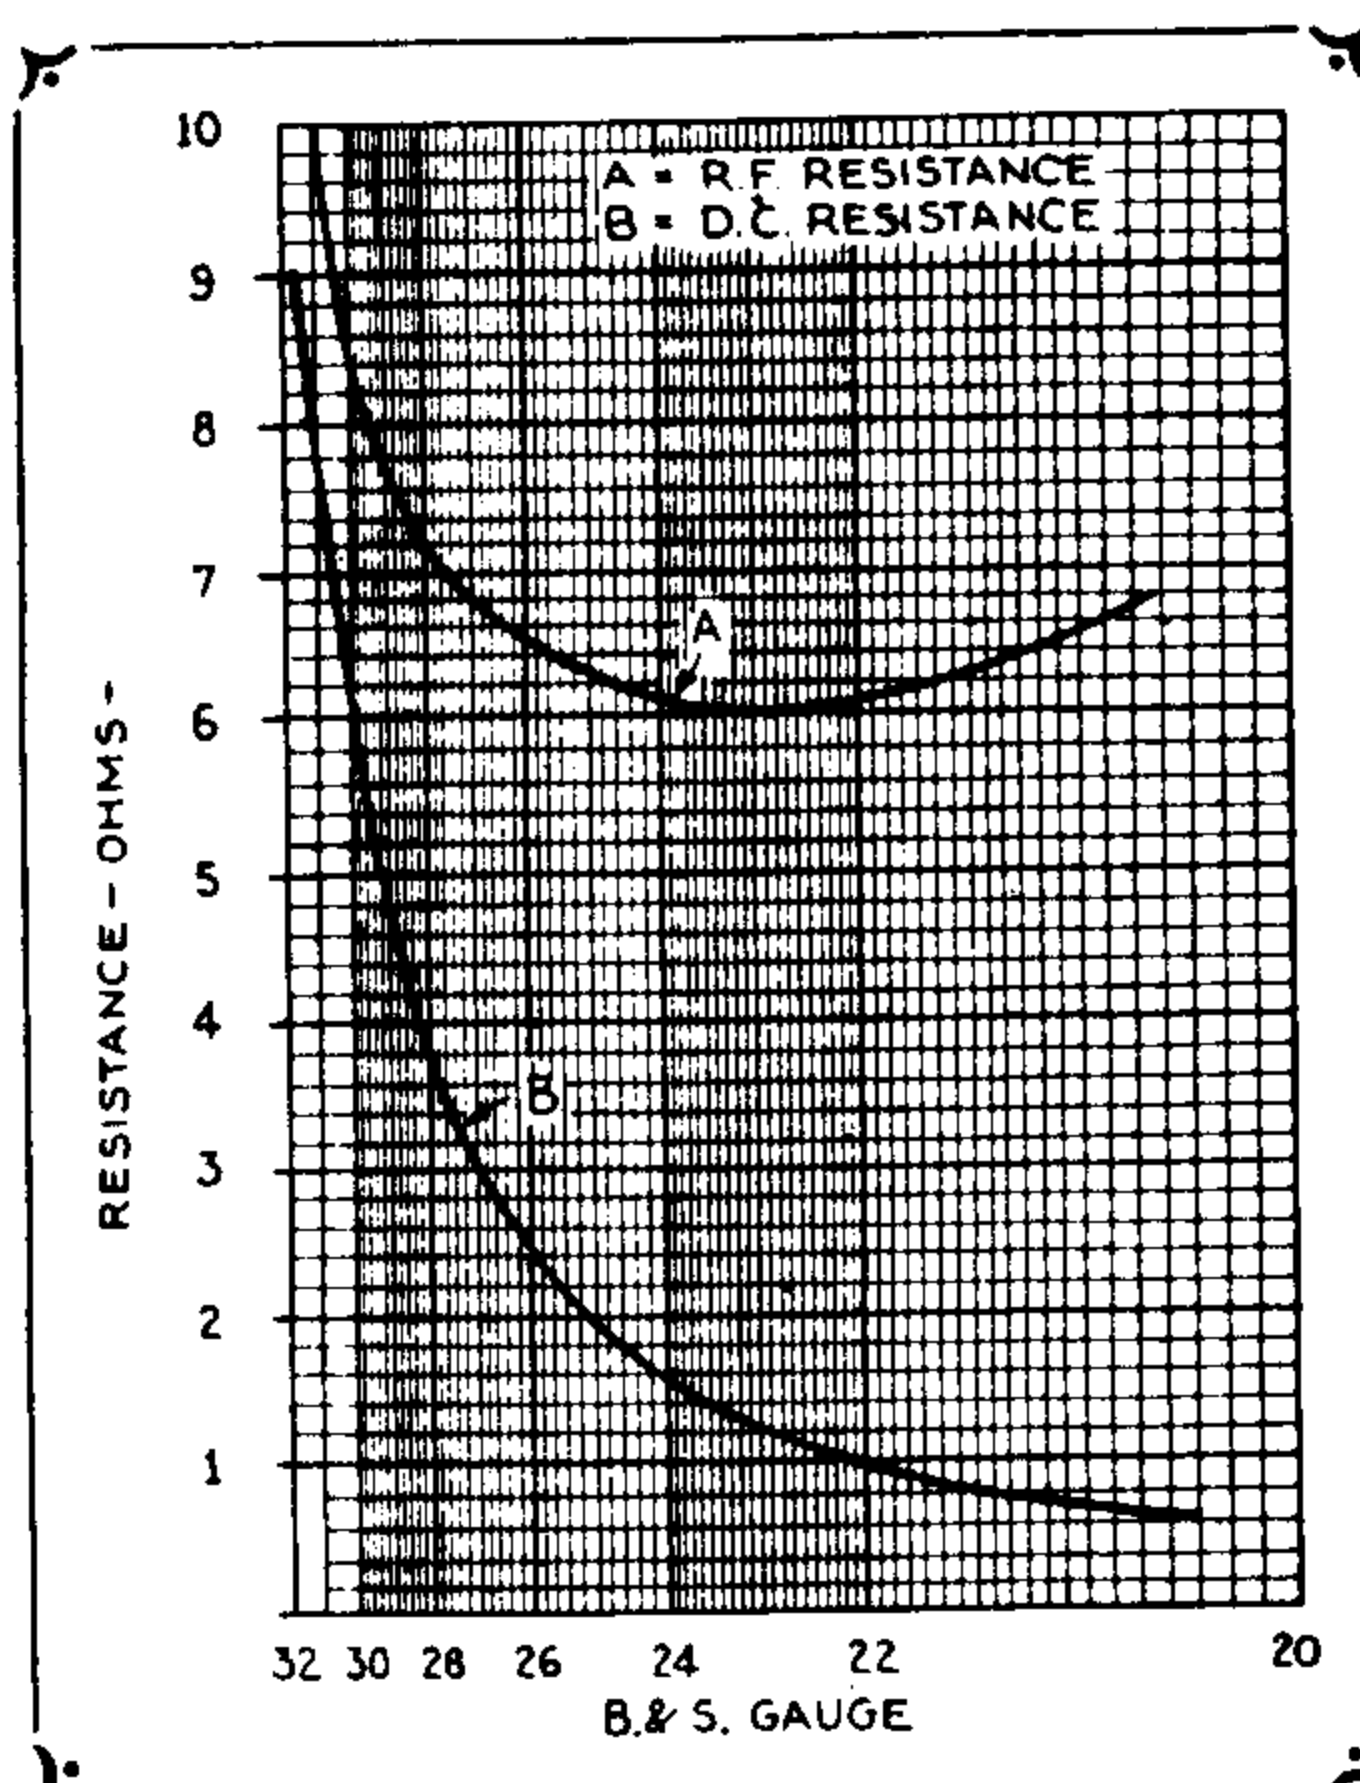

Fig. 1
If the coil resistance (R) in the above ratio was the *direct current* resistance of the coil it would be a simple matter to reduce it merely by increasing the size of the wire. But Fig. 1 shows that there is a point beyond which the *radio frequency* resistance increases with a further increase in the wire size. The curves in this figure were made from data obtained with a coil of 74 turns of No. 24 wire, wound on a form 3 inches in diameter and 2¼ inches long.